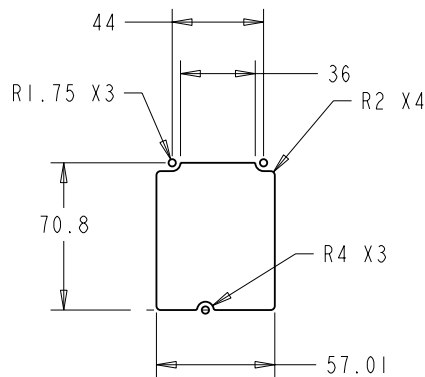

Figure 12. Suggested TFX12V Chassis Cutout
- Chassis cutout (normally in the rear panel of the chassis) as shown in Figure 12.